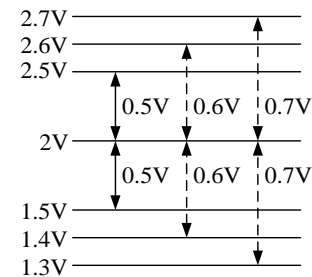
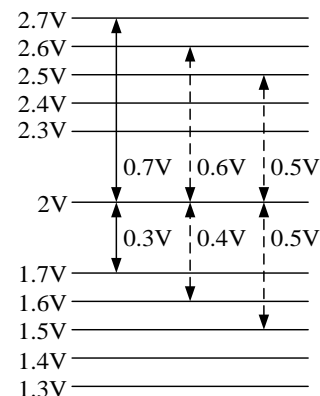

Figure 15. Adjust W2 or W4
Figure 16. Adjust W3 or W5
5. Set output voltage limit. Adjust the potentiometer W4 to set the voltage limit. TP VLIM is the test point for W4. After the VLM is tuned properly, adjust W5 to achieve different voltage limit for heating and cooling. TP VLIM is the test point for W5. As is shown in Figure 15 and Figure 16.
Set output current limit. Adjust the potentiometer W2 to set the current limit. TP ILIM is the test point for W2. After the current limit is tuned properly, adjust W3 to achieve different ILM for heating and cooling. TP ILIM is the test point for W3. As is shown in Figure 15 and Figure 16.